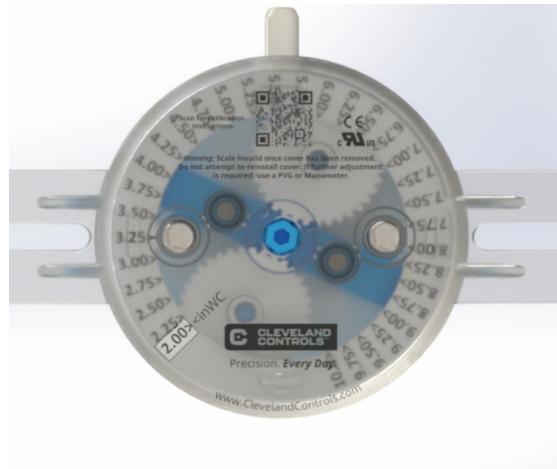

Figure 1 Viewing Window
1. Use a 7/64" Allen key in the keyhole to adjust the set point viewable in the adjustment cover viewing window as shown in Figure 1.